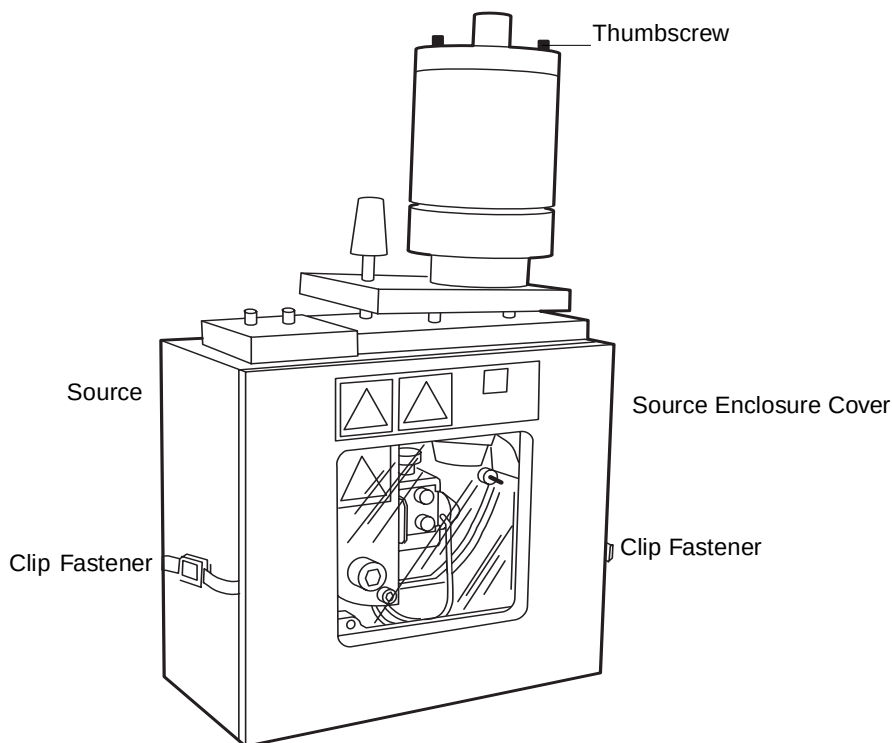

Figure 5-7 Probe Assembly in Position on the Source
7. Unscrew the probe's two knurled thumbscrews, and retract it from the source (Figure 5-7)
9. Unfasten the two clip fasteners (Figure 5-7) so that the source enclosure opens downward on its hinge, allowing access to the source contents.